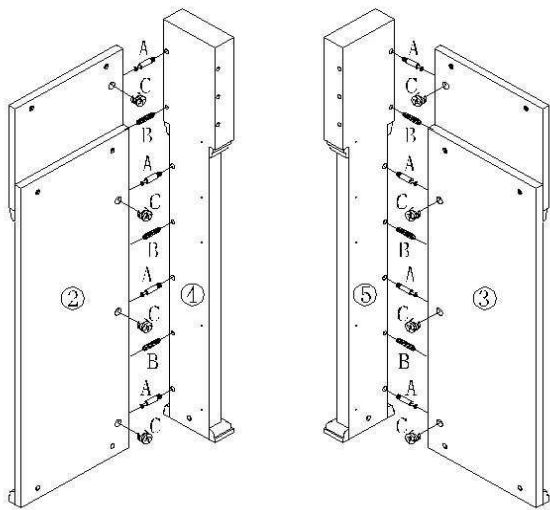

Figure 1
AFTER ASSEMBLED FIGURE 1, INSERT (A) CAM BOLT & (B) WOOD DOWEL TO THE RELATED HOLES, THEN USE (C) CAM LOCK TO CONNECT (6) UPPER FRONT PANEL .